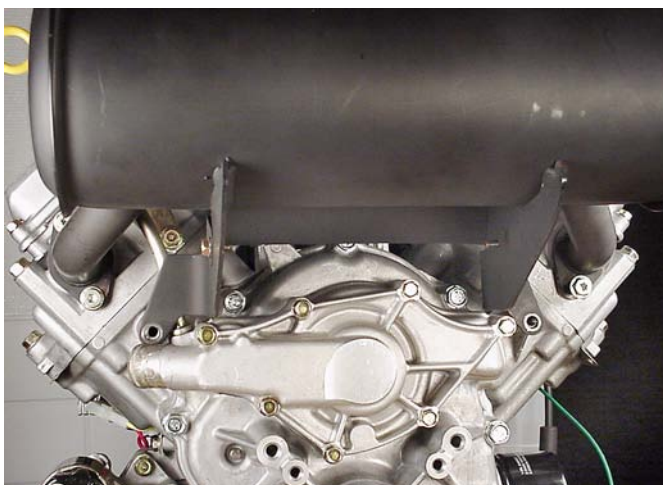

Fig. 171
1. Install muffler with new gaskets, Fig. 171. Torque screws to **190 in. lbs. (21.0 Nm)**.